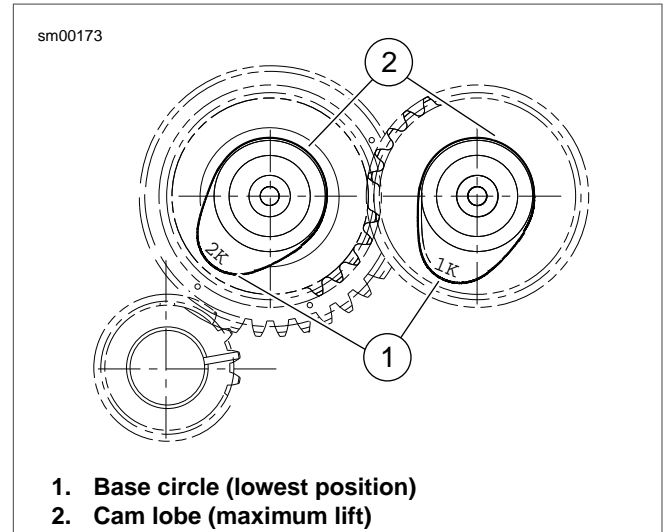

Figure 3-107. Base Circle
1. See Figure 3-107. Rotate engine so that both lifters from the cylinder will be installed on the base circle of the cam.